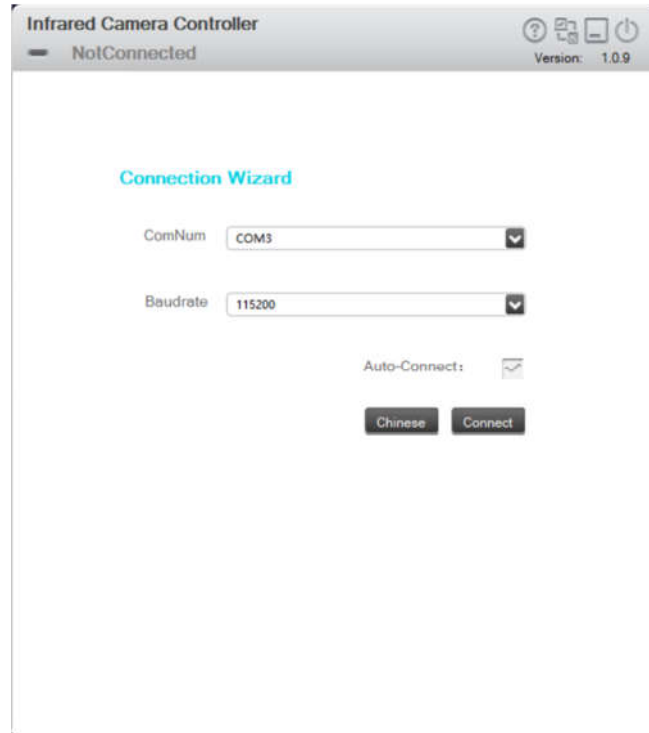

Fig. 4-10 Connection wizard interface
2. When the software is opened for the first time, the connection wizard interface is an English interface by default, the upper left corner shows that the current connection status is "NotConnected", and the upper right corner shows the software version number, as shown in Fig. 4-10.